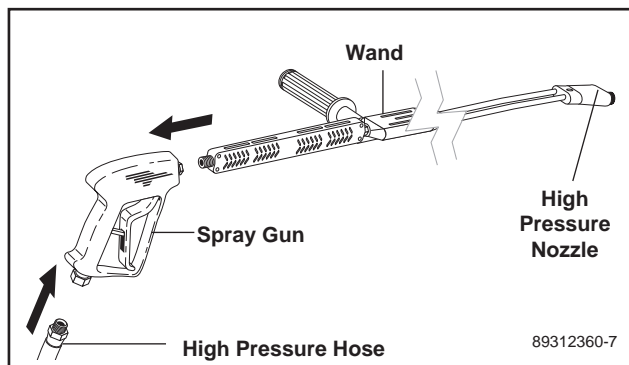

Figure 4 - Trigger Gun/Wand Assembly
2. Assemble wand components as shown in **Figure 4**.